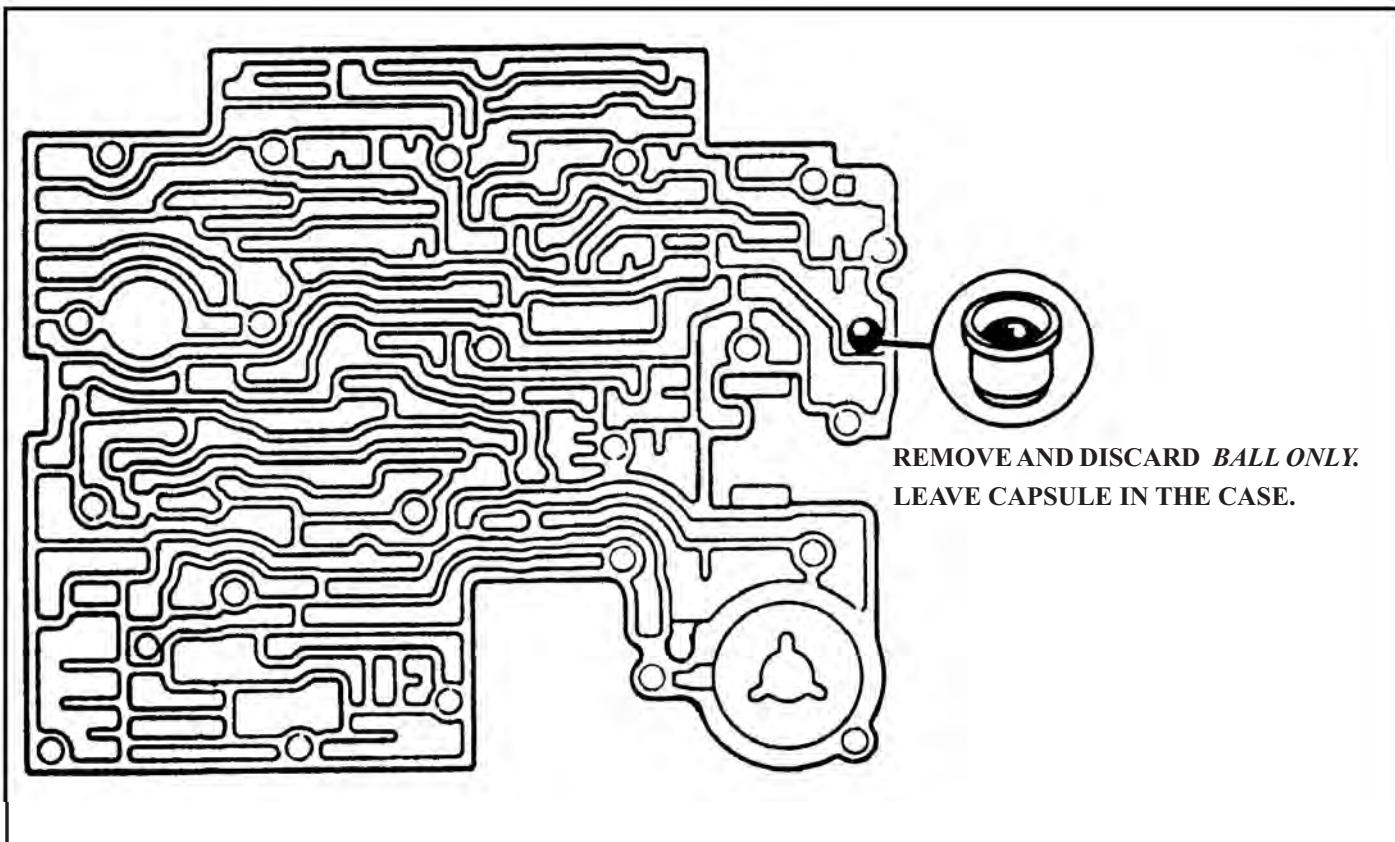

Figure 2
STEP 2: Remove the **ball only** from the capsule in the reverse passage at the rear of the case worm track area, as shown in Figure 2. Leave the capsule in the case. This will allow a larger volume of oil to the oiston to overcome the leak we have created with the exhaust hole we drilled in the piston. This is now a **feed-bleed** system.